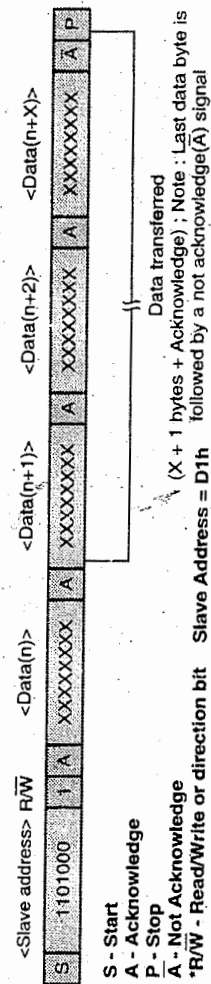

Fig. 14.9.1 :Data Read -- Slave Transmitter Mode
- Fig 14.9.1 shows how the START and STOP conditions are recognized as the beginning and end of a serial transfer .